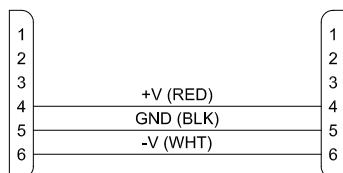

Figure 19. 3500-D Power Cable with 6-Contact Plug
- The 3500-D may obtain power from PESA system components having 6-contact power connectors by using a power cable assembly (Part No. 81-9065-TBD-0) constructed as shown in Figure 19. If this cable must be constructed in the field, please consult WI50-TBD for assembly details. This cable may be used with the following equipment: